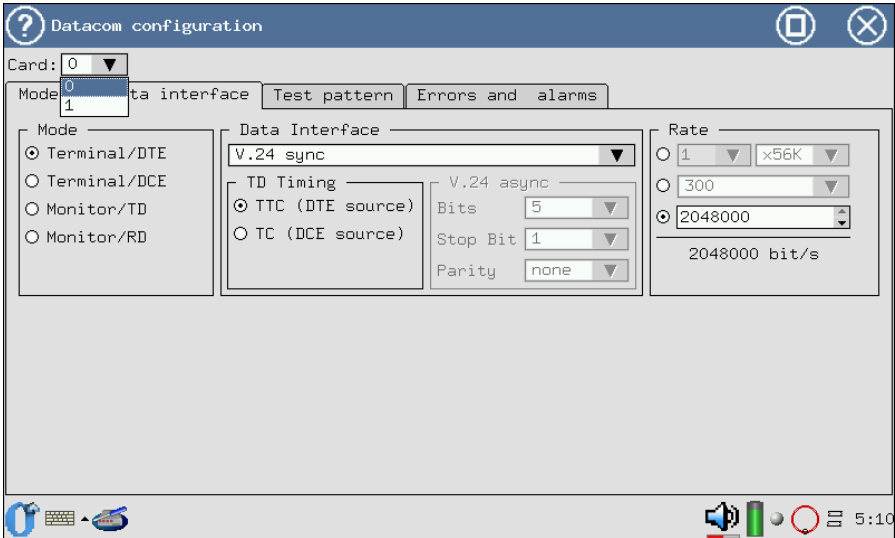

Figure 3.2. Card Selection
2. Select an active B4-DA card (ref. to Figure 3.2).